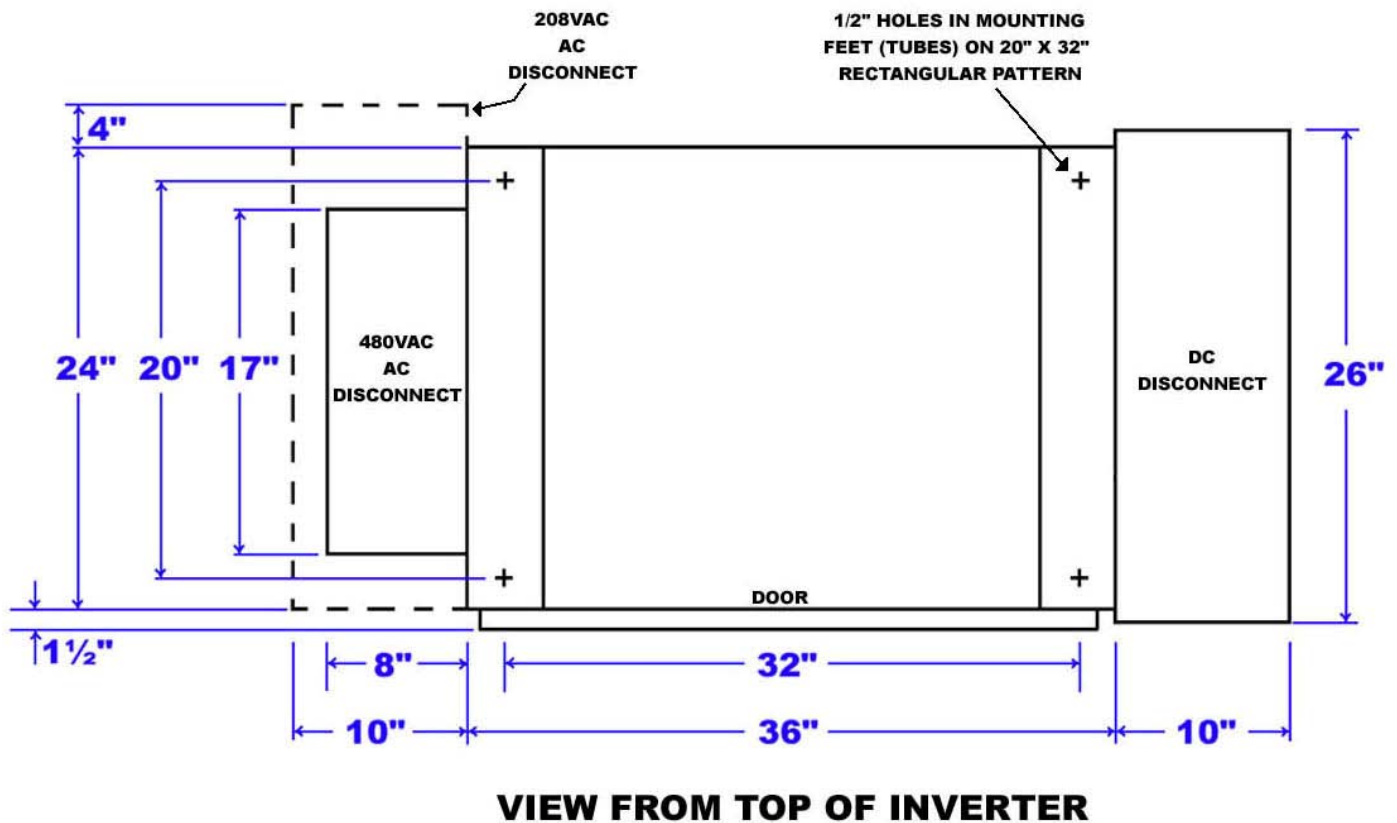

Fig. 2.2 PVI 60KW, PVI 82KW AND PVI 95KW Mounting Hole Diagram
- Install the inverter in an accessible location following NEC codes for enclosure and disconnect door clearances and proximity to other equipment. (See mounting diagram, Fig. 2.2)
Using the mounting diagram Fig. 2.2, choose whether floor/roof or concrete pad mounting will be used. The inverter includes mounting feet with 4 holes (1/2", 12mm diameter) on a 20" x 32" rectangular pattern for attaching the inverter. Note that these 4 mounting holes are 2" inside each corner of the main inverter enclosure dimensions which are 24" x 36".